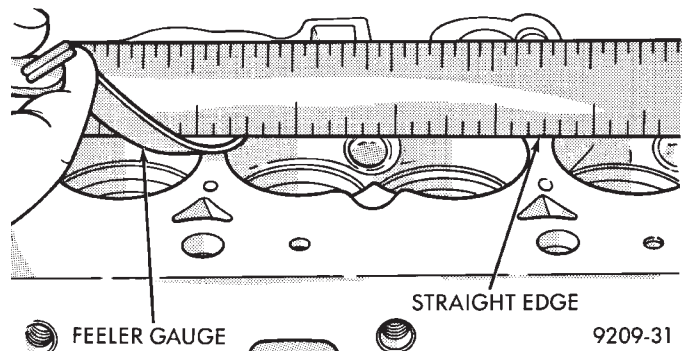

Fig. 14 Checking Cylinder Head Flatness
(1) Cylinder head must be flat within 0.1mm (.004 inch)(Fig. 14).
(2) Inspect camshaft journals for scoring and journal caps for oversize markings. When servicing cyl-